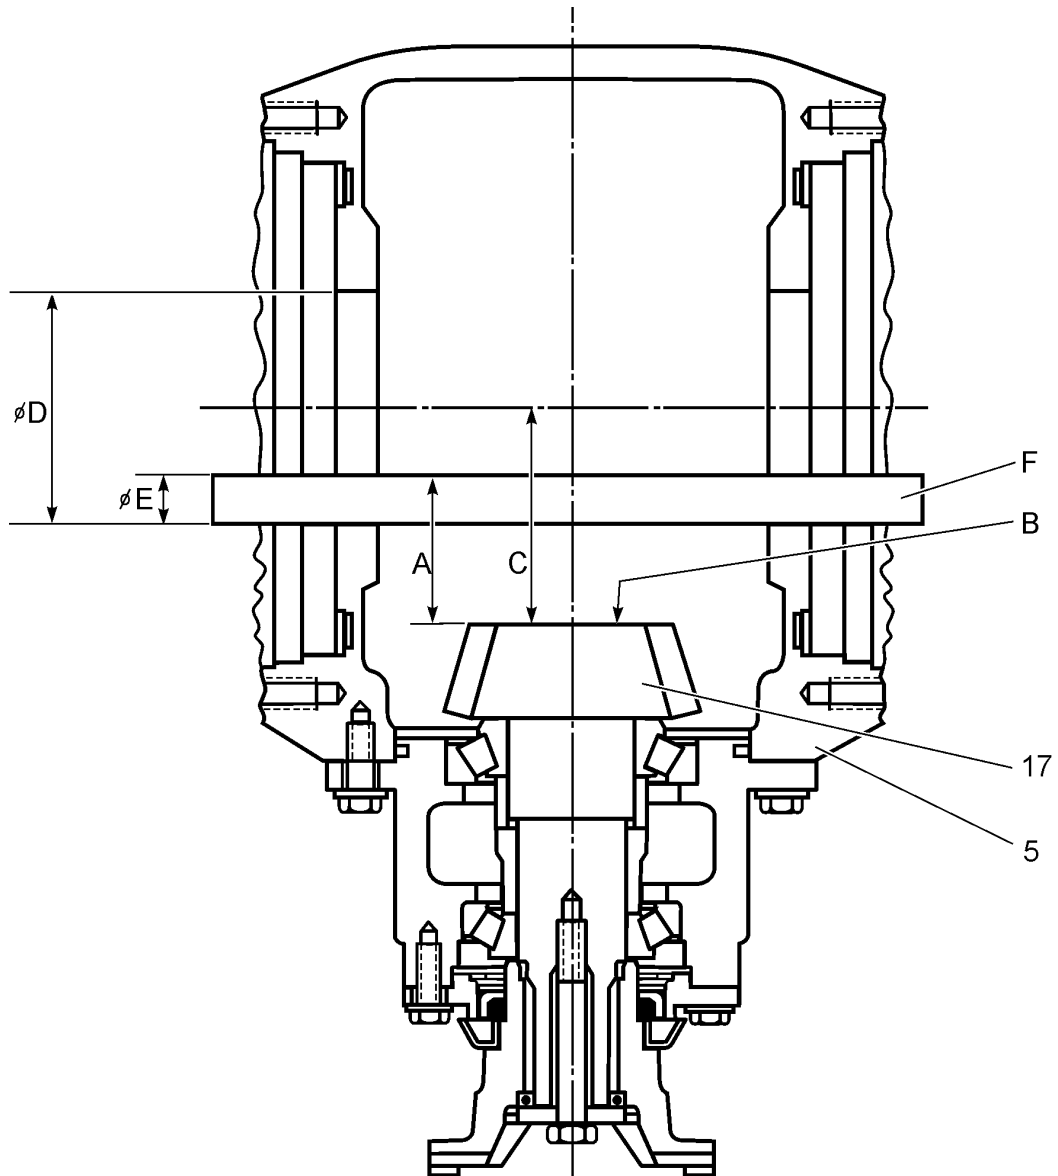

Fig. 7D.49. Dimension (C) Obtaining (Front Axle)
38. Correct tooth contact will result as shown in Fig. 7D.53. Figures 7D.54 through 7D.57 show improper or incorrect tooth contact. To correct such conditions, readjust disc gear and pinion as described on the right side of Figures 7D.54 through 7D.57.